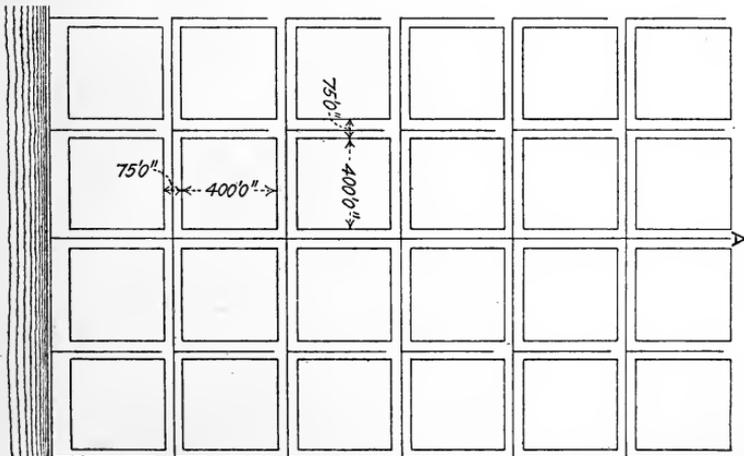

FIG. 8.
1. Design the sewers as shown on the accompanying sketch (Fig. 8), figuring the sizes, locating man-holes, catch-basins, etc. The river bank is at M. H. W. and the point *A* at 15 ft. above M. H. W. with uniform grade toward river. The sewer is of the separate type and the water consumption is to be figured at 100 gal. per capita, with 300 residents on each block. No provision for growth of city.